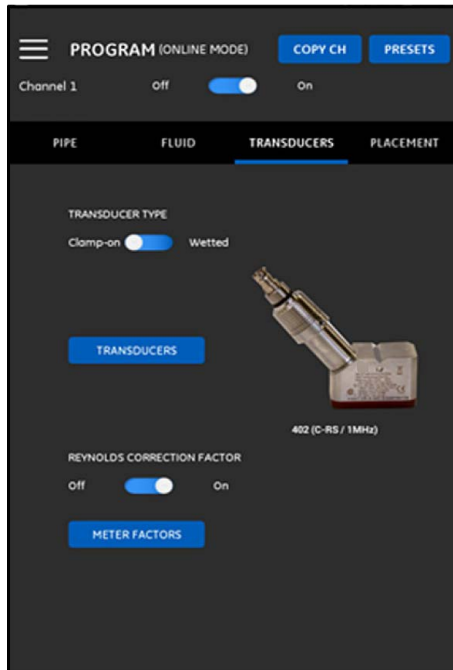
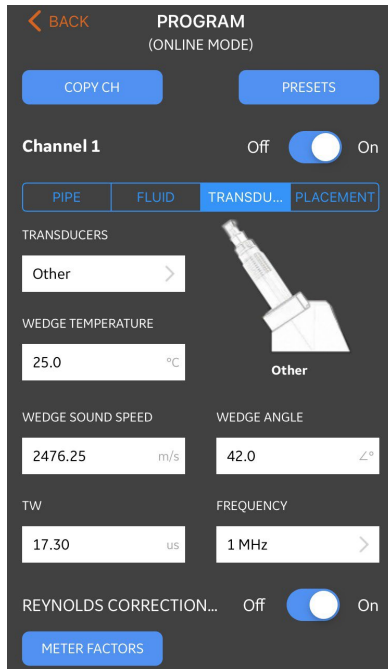

Figure 87: The TRANSDUCERS Menu
Figure 88: Transducer Menu parameters
An example of this menu is shown in Figure 87 below. See the following sub-sections for the options available in programming the transducers.
To program your transducer parameters, refer to Figure 87 on page 73 and complete the following steps:
2. If you select standard transducer from the drop down, you will need to enter only the WEDGE TEMPERATURE (see Figure 87). But if you select other as your transducer model, few additional parameters will appear on the screen (see Figure 88) and you must edit this data with the correct specific information.
The REYNOLDS CORRECTION FACTOR can be set to either On or Off (see Figure 87 on page 73). This factor corrects the fluid velocity measured across a diametrical path so that it more accurately represents the average fluid velocity across the entire cross-sectional area of the pipe. The REYNOLDS CORRECTION FACTOR should be turned On for all clamp-on measurements.
To program the METER FACTOR, refer to Figure 87 on page 73 and complete the following steps: